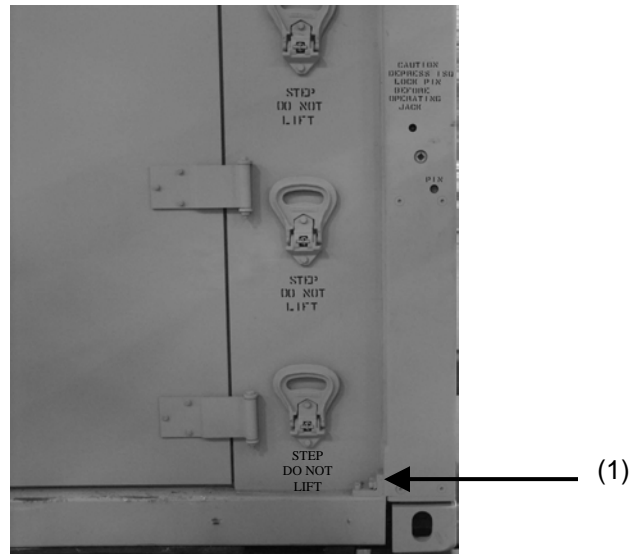

Figure 4-63. Corner gusset on ISO corner posts
5. Hold cap screw (1) (Fig. 4-63) and loosen hex nut, turning counter clockwise.
6. Place four bolts in two gusset plates (1) on either side of jack (Fig. 4-63).